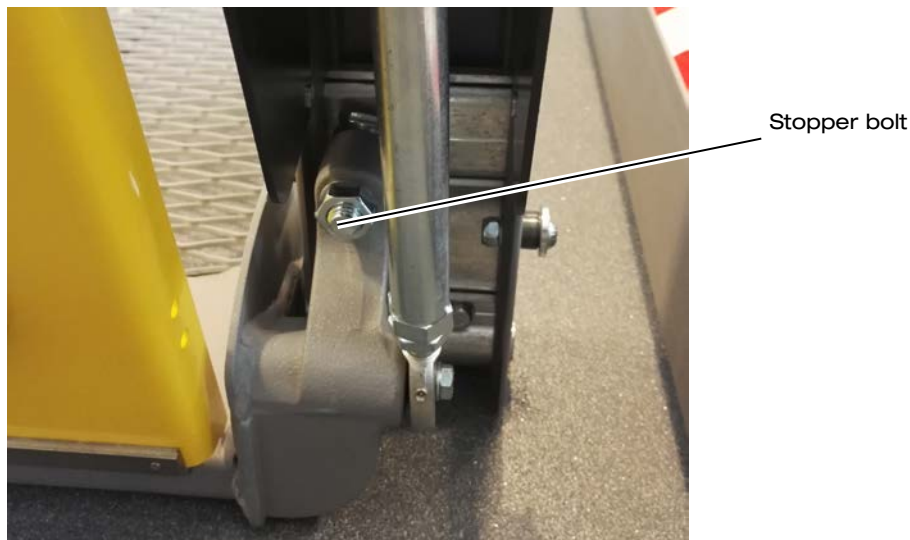

Figure 19: Stopper Bolt
- ⇒ Loosen the locking nuts on both stopper bolts (see Figure 19).